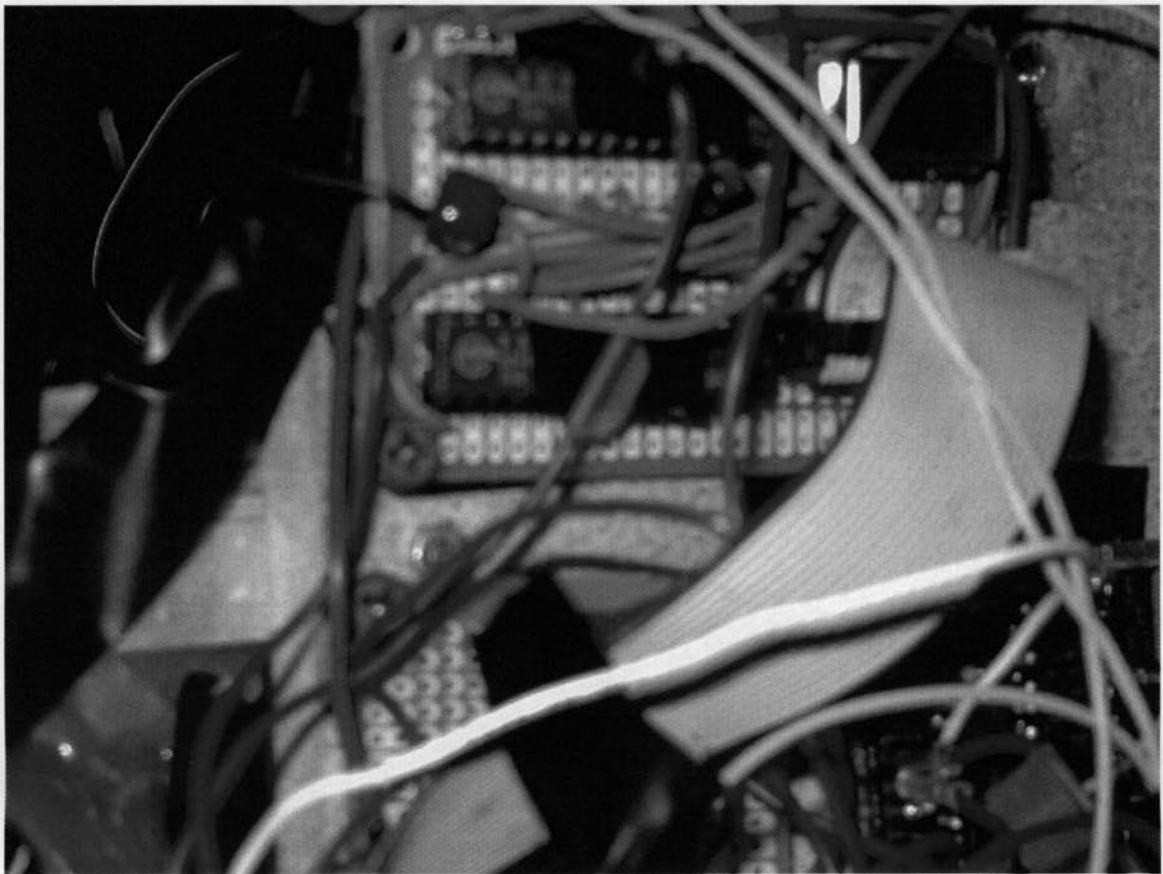

Fig. 9 – Chain Frequency Generator Board
- Connect the green wire labeled “Servo” coming from Pin 26 on Altera chip #1 to the yellow wire on the chain servo (servo #1). See Fig. 9.